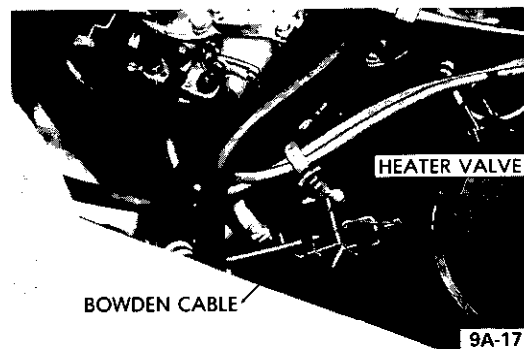

Figure 9A-17 Heater Valve
- 3. Loosen heater hose clamps and remove valve from hoses. See Figure 9A-17.